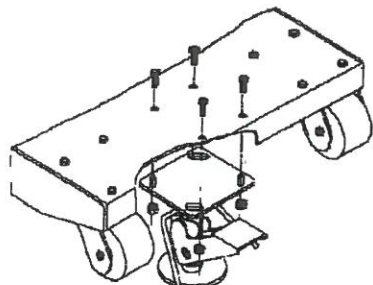

Figure 2
- 2) **Hydraulic Stacker Models:** Floor lock has been shipped loose to prevent shipping damage. It must be installed underneath base prior to use (see Fig. 2)